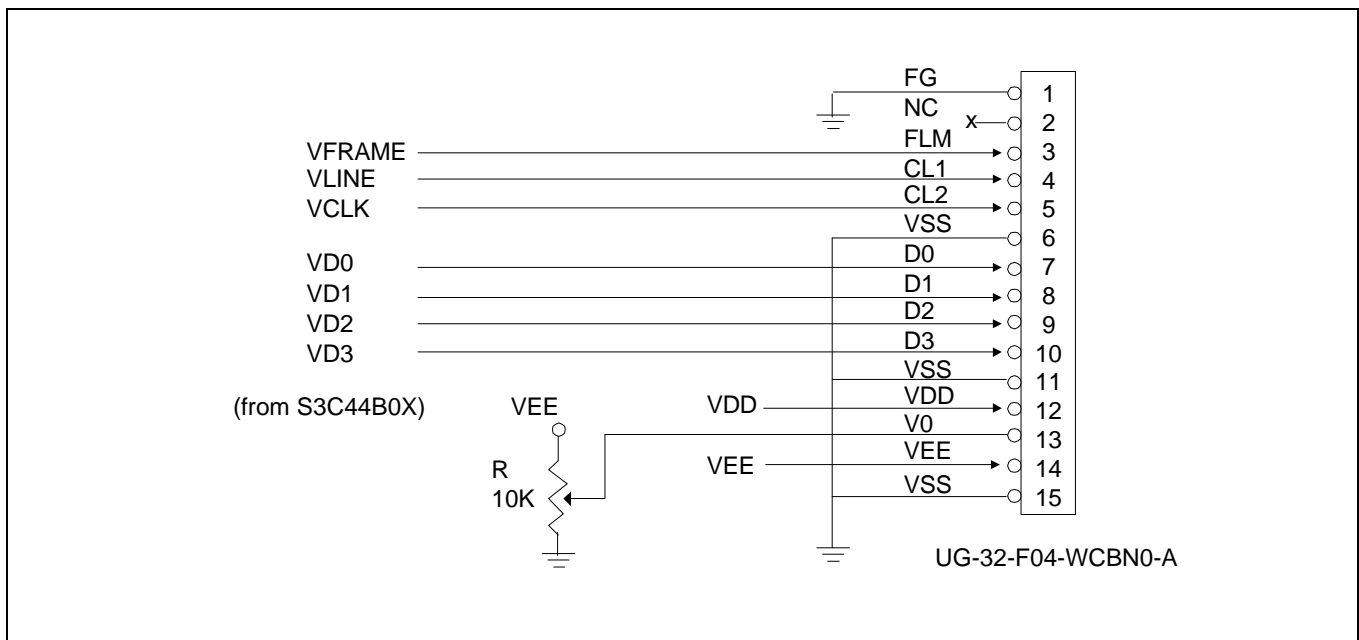

Figure 4-14 UG-32F04 connection with S3C44B0X(320x240 mono STN LCD)
- UG-32F04(320x240 mono STN LCD) from SAMSUNG DISPLAY DEVICES CO.,LTD (refer to Figure 4-14)